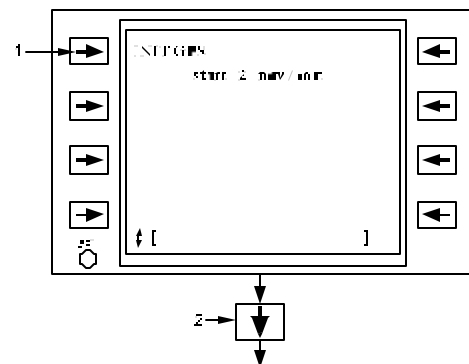

Figure 3B-22. Start 2 Navigation/Initialization
2. Press Left Line Key 1, then scroll to Start page 3. Refer to Figure 3B-22 and Table 3B-14.